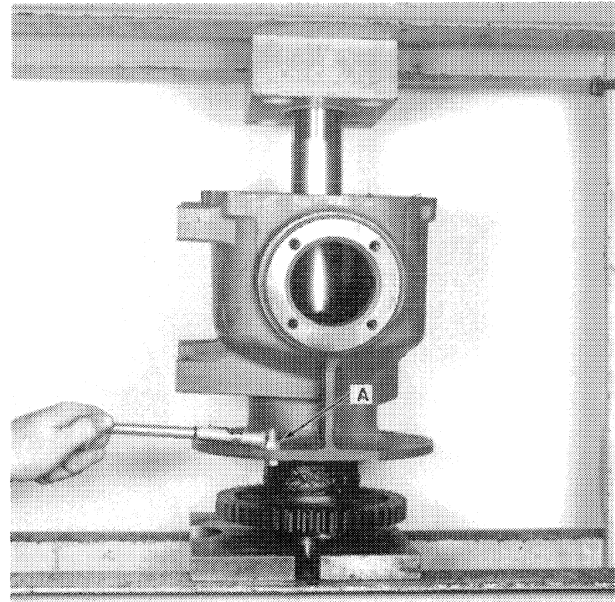

FIGURE 1-12
7. Position the housing in a press as shown in Figure 1-12. The gear should rest on the press. The ram should press against the shaft. The housing must be free to rotate.